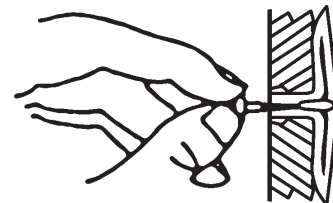

Figure 9 - Popping Open Anchor Wing For Thin Walls
4. For thin walls (1/2 inch or less), insert red key into wall anchor. Push red key to “pop” open anchor wings (see Figure 9).